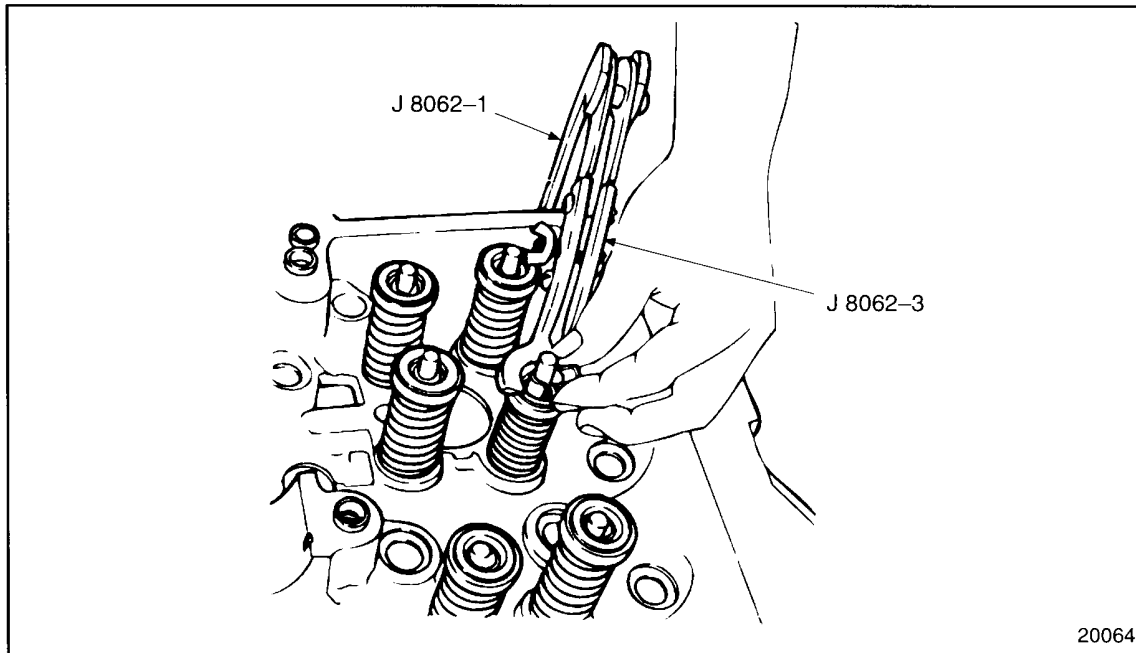

Figure 1-72 Compressing Valve Spring
7. Use valve spring compressor, J 8062-1 part of J 8062, with jaws, J 8062-3 part of J 8062 installed, to compress each valve spring and remove the valve locks. See Figure 1-72. Refer to Section 1.4.5.2 for inspection procedures.